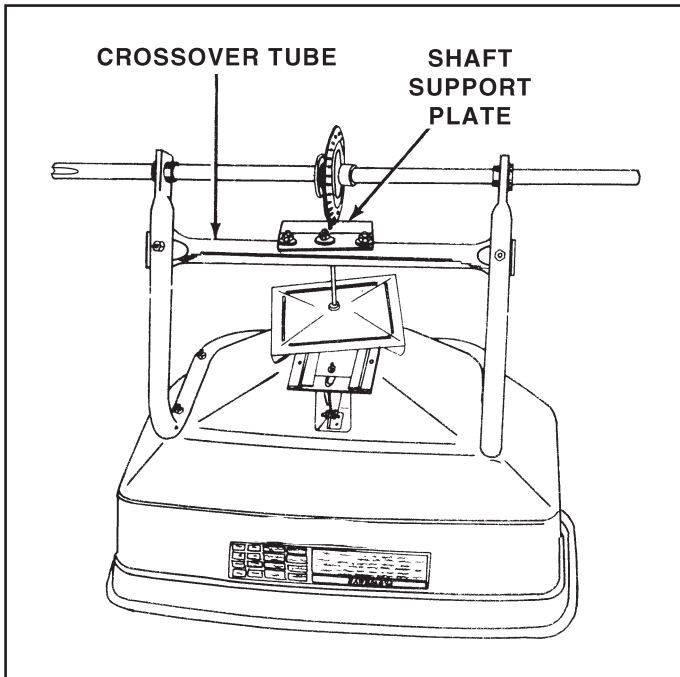

FIGURE 1
2. Turn the spreader upside down as shown in figure 1, so that it rests on the hopper.